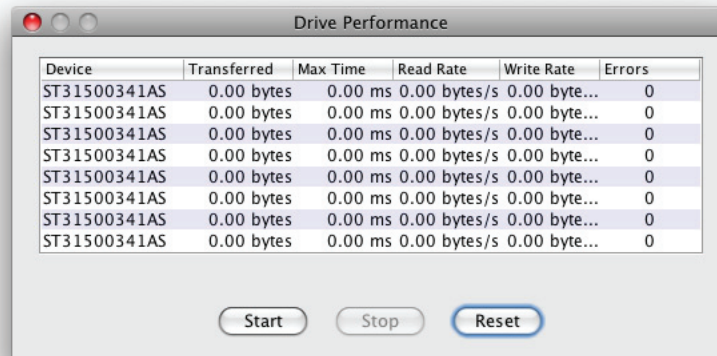

Figure 28
6. The Performance dialog box displays. See **Figure 28** on page 34.